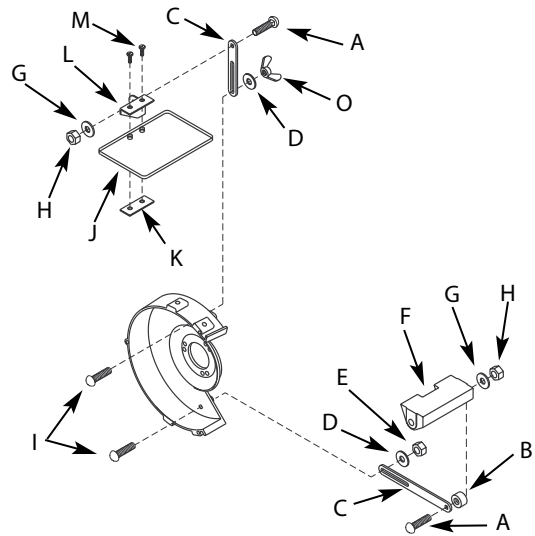

Figure 1 – Left Tool Rest and Eyeshield Assembly (82061)
Parts to be fastened to the unit should be located and accounted for (See List and Figure 1).
- Slide $\frac{5}{16}$ "-18 x $1\frac{1}{2}$ " carriage bolt (A) into square hole in tool rest bracket (C). Slide spacer (B) onto carriage bolt. Slide carriage bolt with spacer and bracket into hole on inside of tool rest (F) as shown in Figure 1. Slide $\frac{5}{16}$ " flat washer (G) and $\frac{5}{16}$ "-18 hex nut (H) onto carriage bolt. Tighten nut finger tight.